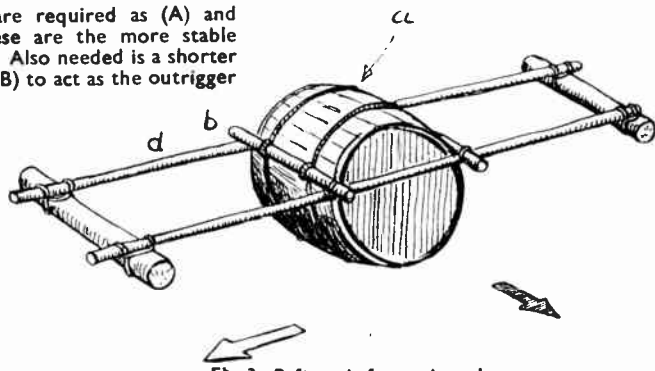

Fig. 3—Raft made from a barrel
stopped by fitting with an outrigger frame as shown in Fig. 3. The barrel is kept in position by the lashing (A) which goes right round and is fastened to the cross spars (B). In fitting the frame, adjustment has to be made so that the barrel under load floats at the same level as the outrigger logs. This means that the frame has to be generally lashed at a position higher than the centre of the barrel ends, but every-